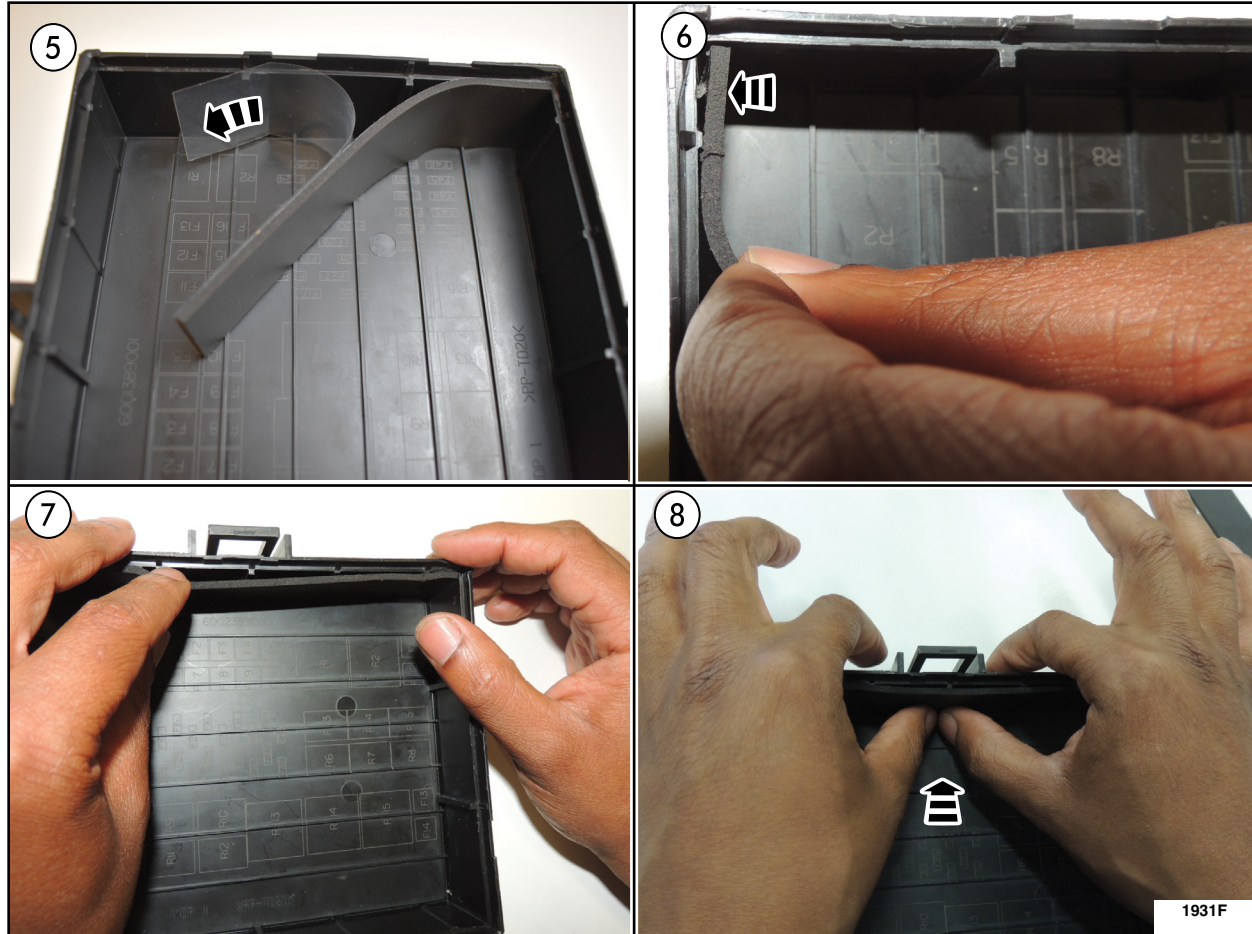

FIGURE 6
8. Completely remove the backing off the foam piece, place the other end of the foam into the opposite corner of the cover making sure to keep it even with the inside lip of the cover. Stick the foam and press downward. Then starting from both ends work your way to the center of the cover applying pressure to properly adhere the foam in place. See Figure 6.